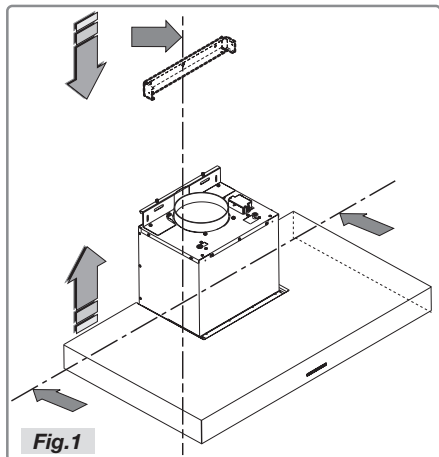

Fig. 1
- Outline the underside of the hood on the wall, taking into account the minimum distance between the hood and the hob (Fig. 1).